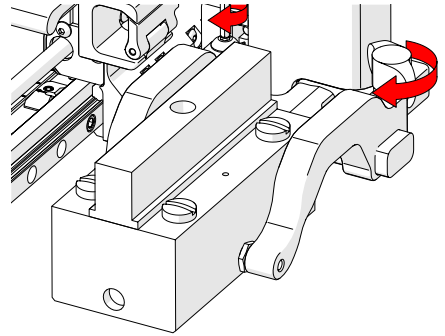

Fig. 51 - Pivot buttons
7. Tighten both the probe holder adjustment knob and the arm clamp screw (Fig. 51) while ensuring the wedge remains centred with the yoke.